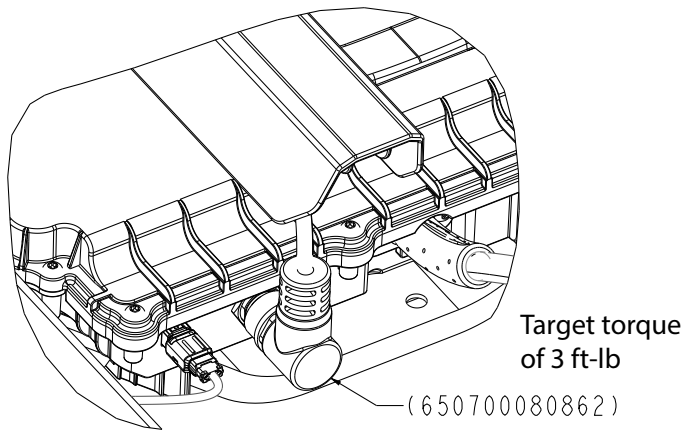

Figure 23 –
12. Remove the FEIB to status external module coil cable assembly (650700080862) (Figure 23).